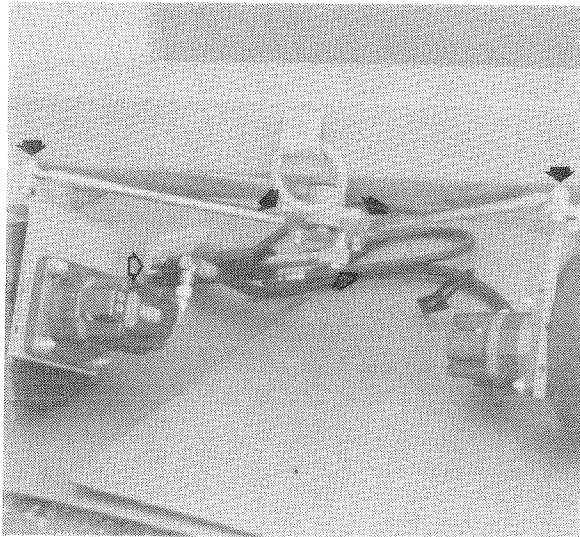

Figure 20. Lubricating Steering Linkage.
- b. Pivot points of steering cylinder and steering system, Figure 20.